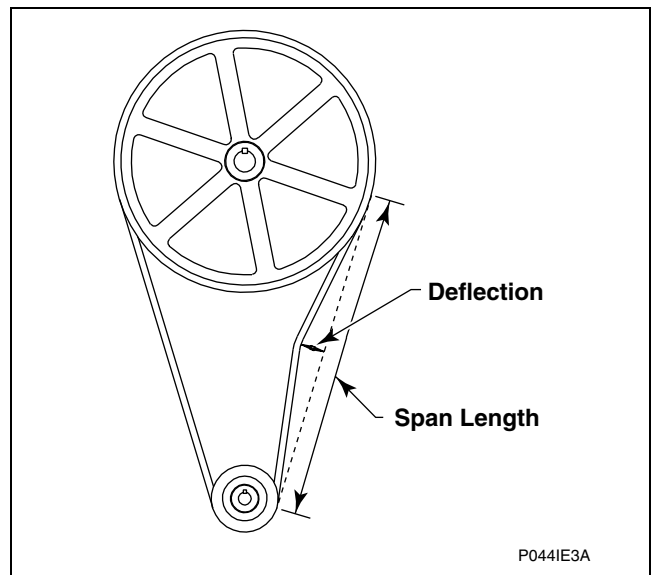

Figure 18
- (1) Belt deflection measurements should be taken as close to the center of the belt span as possible. Refer to *Figure 18*.